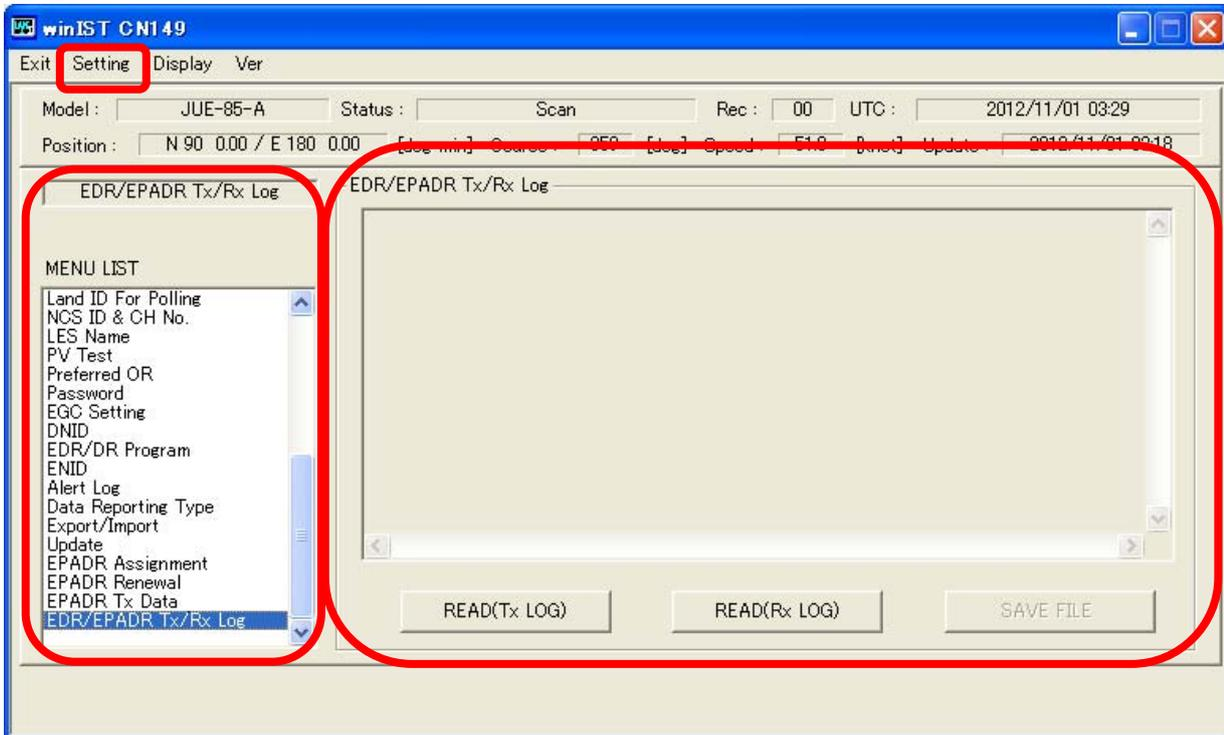

Fig. 4-37-1a [EDR/EPADR Tx/Rx Log] screen
2. Operation except [Exit], [Display], and/or [Ver] is not possible while winIST is communicating with INMARSAT terminal(the function in the frame of Fig. 4-37-1a [EDR/EPADR Tx/Rx LOG] screen cannot be operated).